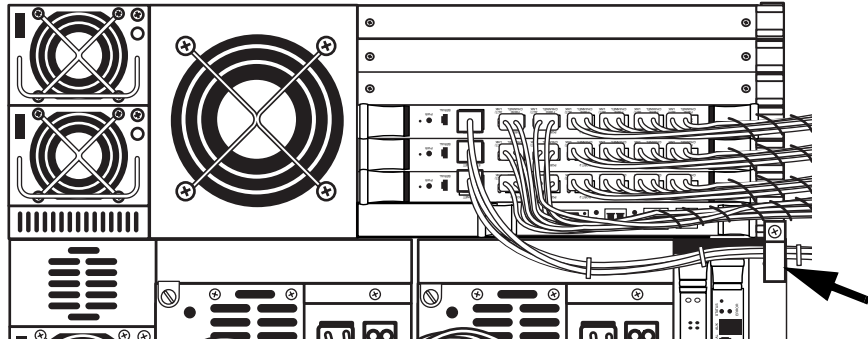

Figure 55: Routing Ethernet cables through the FC-only cable clamp
- If you have FC drive cables only (no SCSI drive cables), open the cable clamp located at the base of the cable bracket on the right of the card cage by removing the screw (see Figure 55). Route the Ethernet cables through the cable clamp, then reattach the screw to secure it and the cable bracket to the card cage.